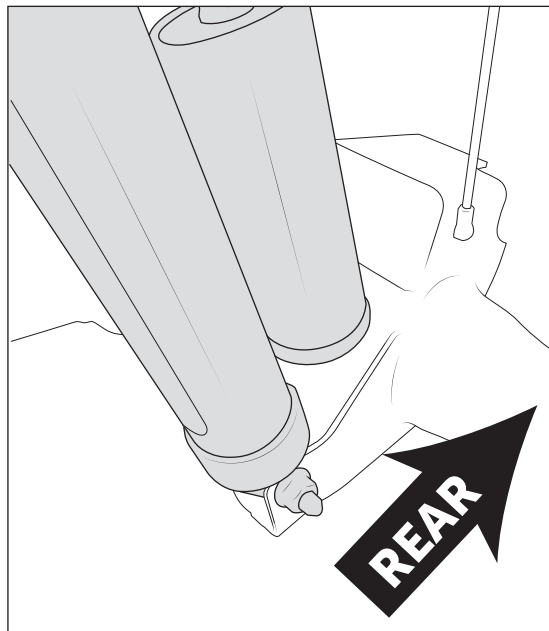

Figure 9
2. Install lower bushing to axle bracket. Reservoir should point toward axle tube (fig. 9). Reinstall factory shock bolt and torque to 89 ft-lb.